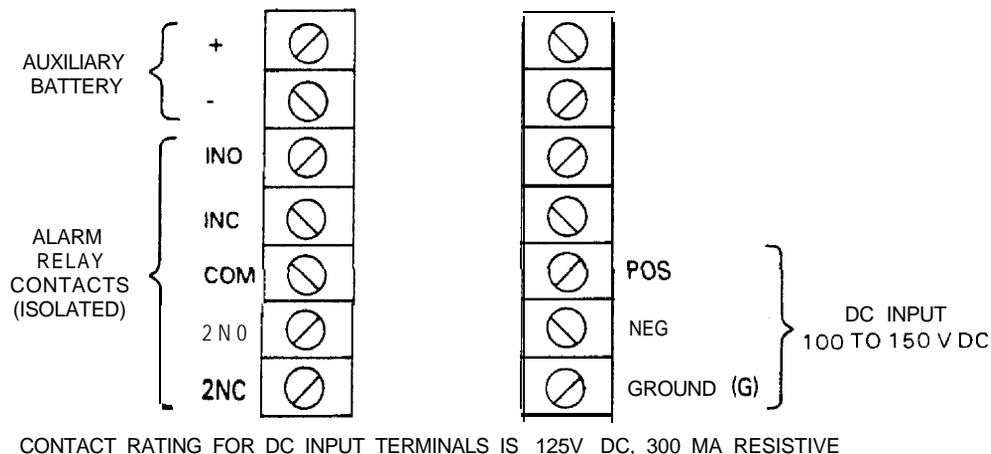

FIGURE 3. FRONT-PANEL TERMINAL BLOCK
- 4 Front-Panel Connector Block (Refer to Figure 3)
12. Remove the plastic cover on the lower portion of the power supply and attach the DC wires, as well as the battery and alarm wires, as they were on the original supply (Refer to Step 6 and Figure 3). Replace the plastic cover.